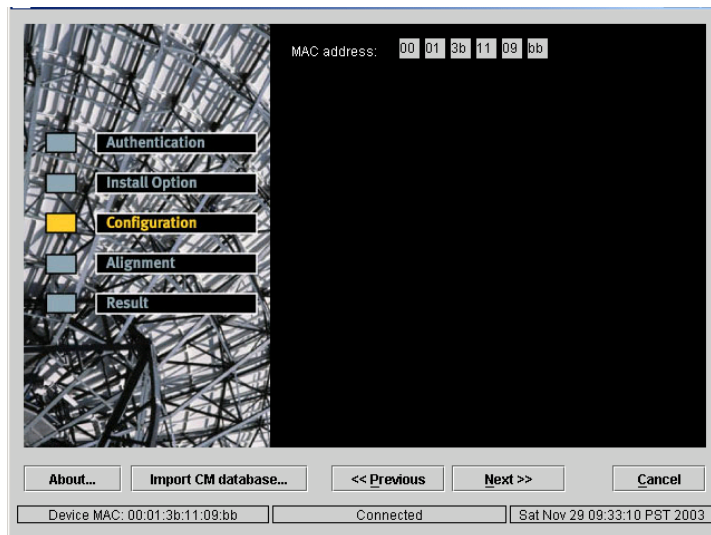

Figure 5-17 *Continue with Setup: Configuration Window*
3. The Configuration Window will be displayed, showing just the MAC address as shown in *Figure 5-17*. Click on the **Next>>** button.